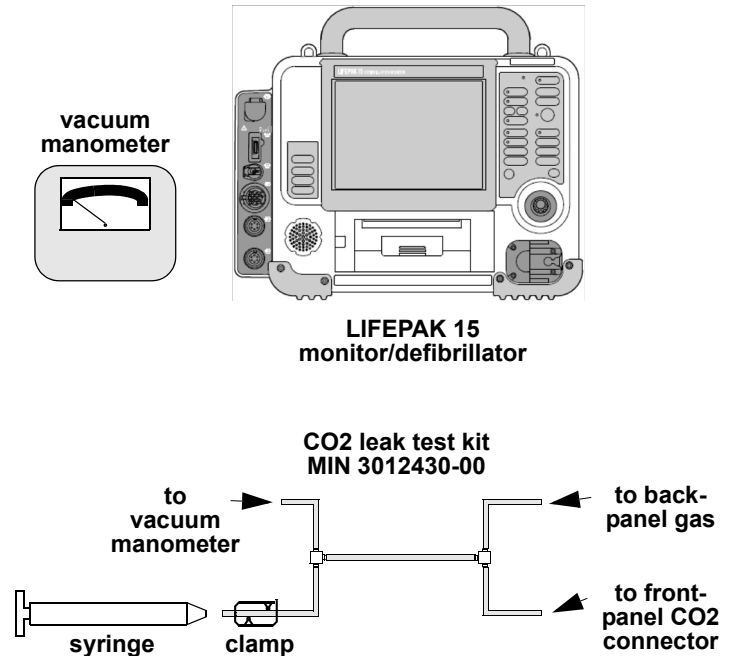

Figure 5.18—CO2 monitoring test set up
1. Set up the test equipment as shown in Figure 5.18.
3. Connect the tubing to the front panel CO2 connector and to the back panel CO2 gas outlet. (**Important:** Press the fittings that connect to the device firmly to avoid leakage. All tubing ends should now be connected as shown in Figure 5.18.)